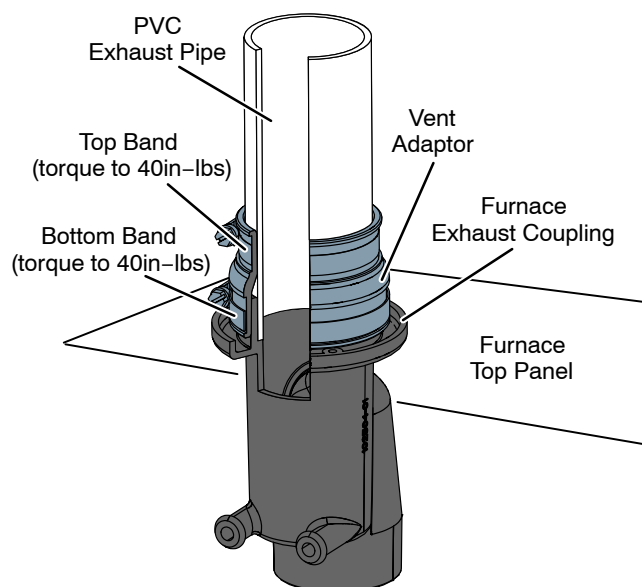

FIGURE 20
NOTE - Exhaust coupling must be installed with provided appliance adapter. See figure 20.
Exhaust Piping (Figures 20, 23 and 24)
- Tighten both top and bottom bands to 40 in lbs. See figure 20.